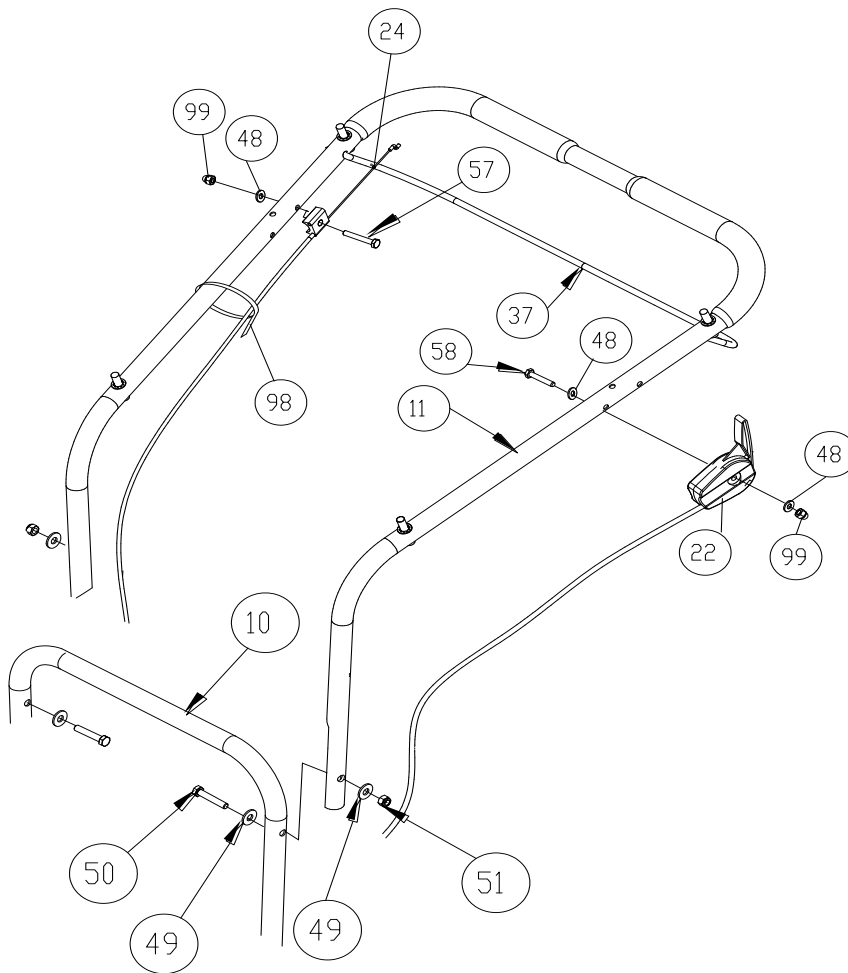
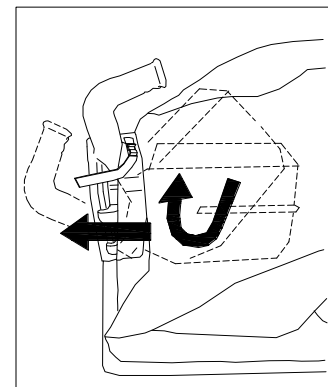

Fig. 1
Fig. 2
1. **ASSEMBLE** the upper handle (item 11), with the hardware from the parts bag (items 50, 49, and 51) to the lower handle (item 10). Tighten the hardware securely. (See Fig. 1.)
2. **ATTACH** the throttle lever (item 22) to the right side of the handle with the hardware from the parts bag (items 58, 48, and 99). Secure the cable with the Ty-Wrap (item 98).
3. **ATTACH** the clutch cable (item 24) to the inner right side of the handle with the hardware (items 99, 48, and 57). Then attach the end of the cable to the bail. After it is attached, check to make sure it is functioning properly.
4. **UNFOLD** the debris bag (item 21) and fasten bag neck to bag quick disconnect (item 12). Attach firmly to housing exhaust (item 1). (See Fig. 2 and 3.)
5. **ATTACH** bag to four posts (item 13), preassembled to upper handle.